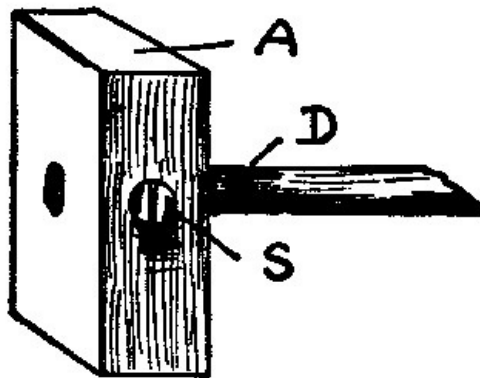

Fig. 72.
**133. Attachment for Winder.** Fig. 72. By using this addition to App. 93 or 94, almost any ordinary kind of windings can be made. The wooden block, *A*, may be about 2 in. square and  $\frac{7}{8}$  in. thick. A set-screw, *S*, binds it to the dowel-axle, *D*, which is made to turn by one of the forms of cranks given, and which is held in one of the frameworks. Windings like that shown in App. 112, Fig. 85, can easily be done with this, the upright part, with the two spools, being screwed right to *A* of Fig. 72.